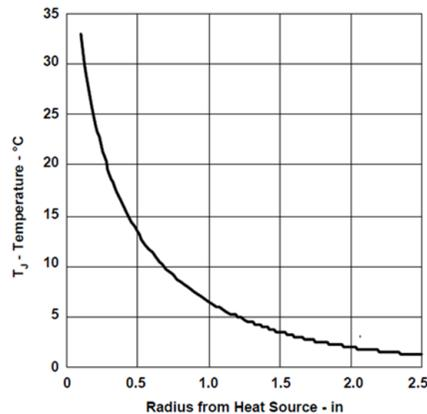

Figure 2. Temperature Distribution Laterally from IC Decreases Exponentially
Finally, the effectiveness of a copper pour to dissipate power decreases at an exponential rate (see Figure 2). Therefore, you do not get much more benefit by having more than approximately one inch of copper in any direction from the IC in a circular pattern. This equates to about four square inches of copper using a 1.2-inch radius equal to $\pi \times \text{Radius}^2 = 3.14 \times 1.2^2 = 4.5$ square inches of copper.
- The temperature distribution decreases at an exponential rate (shown in Figure 2). You will not get much benefit beyond approximately 4.5 square inches of copper pour on either side (9.0 square inches of copper for both top and bottom side).